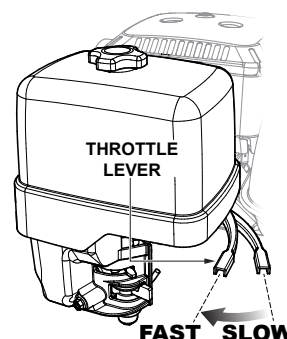

Figure 20. Throttle Lever
3. Move the throttle lever (Figure 20) away from the slow position, about 1/3 of the way toward the fast position.